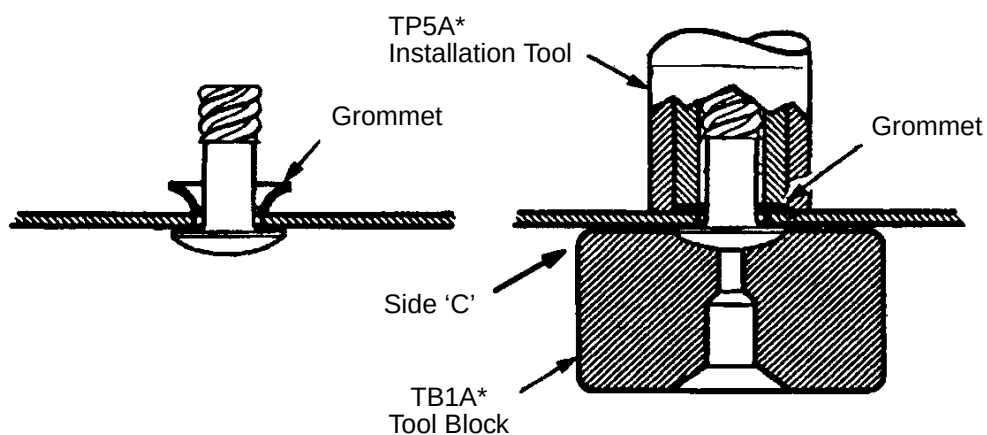
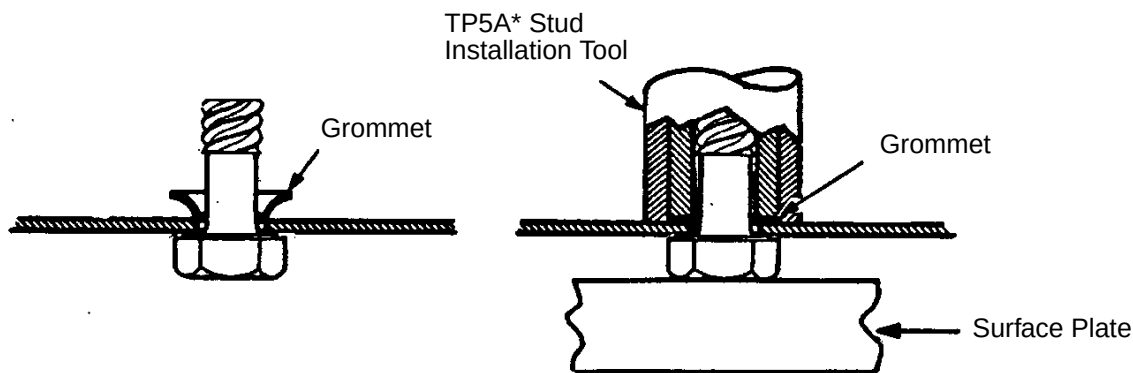

Figure 7 - installation of Oval Head Studs
Figure 8 - installation of Hexagon Head Studs
- Step 2. For oval head studs, support the head of the stud with side 'C' of a TB1A* tool block (see Figure 7). For hexagon head studs, support the head of the stud with a surface plate (see Figure 8).